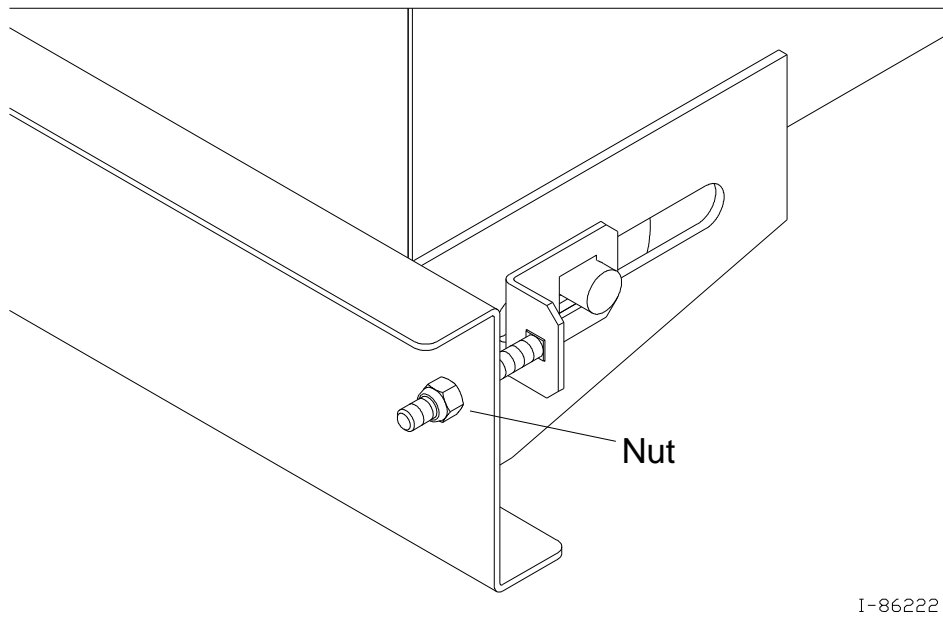

Figure 4A - Adjusting the Floor Apron Chain for Proper Tension
- Periodically check the floor apron chain for proper tension/tightness (refer to Figure 4A).
- b) Use a 9/16" wrench to tighten the adjustment nut on the lower left/right front of the spreader box as shown in Figure 4A. Observe the chain positioning with respect to the floor/apron.